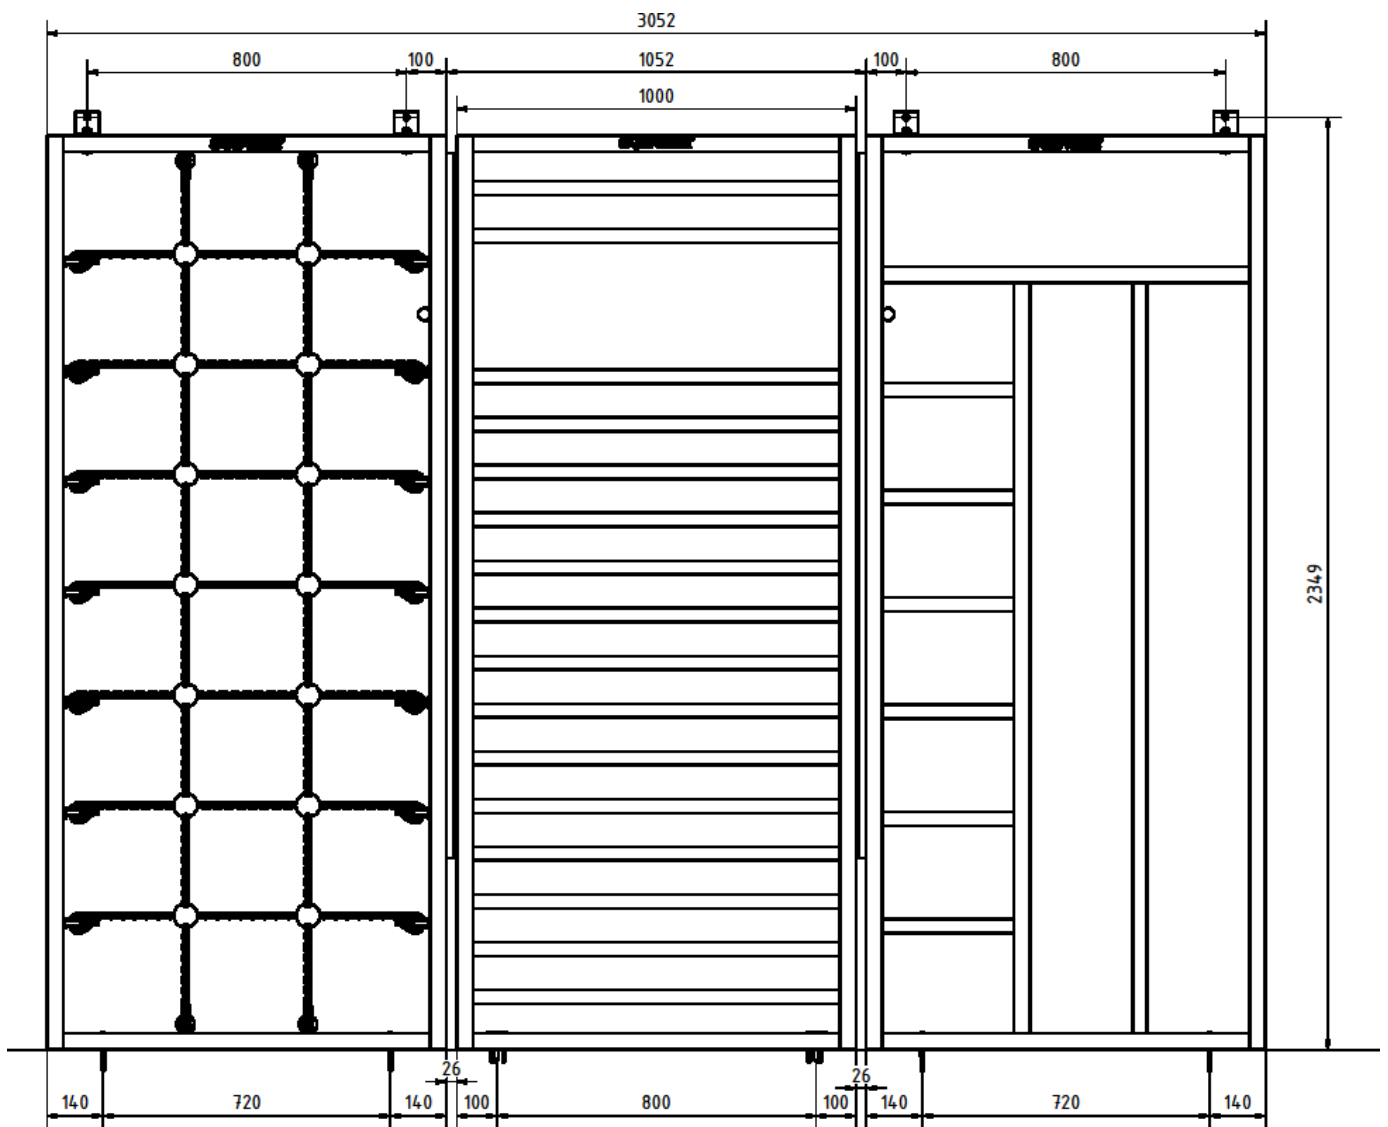

Figure 3: Recommended drilling dimensions for the frames
Start by assembling the fixed (non-tilting) gymnastics wall frames. Place them at a distance of 40 cm from the wall they will be mounted on and add two washers (9) under each frame. Maintain the distance between the individual frames as specified in figure 3.